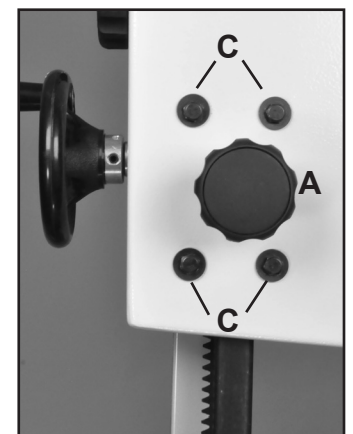

FIGURE 30
4. Loosen the four Hex Bolts (#2C) located at the rear of the top frame. (Fig. 30, C). This will allow the